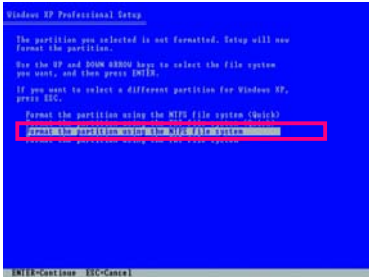

Figure 3
3. Select a file system (for example, NTFS) and begin the installation of the operating system (Figure 3).